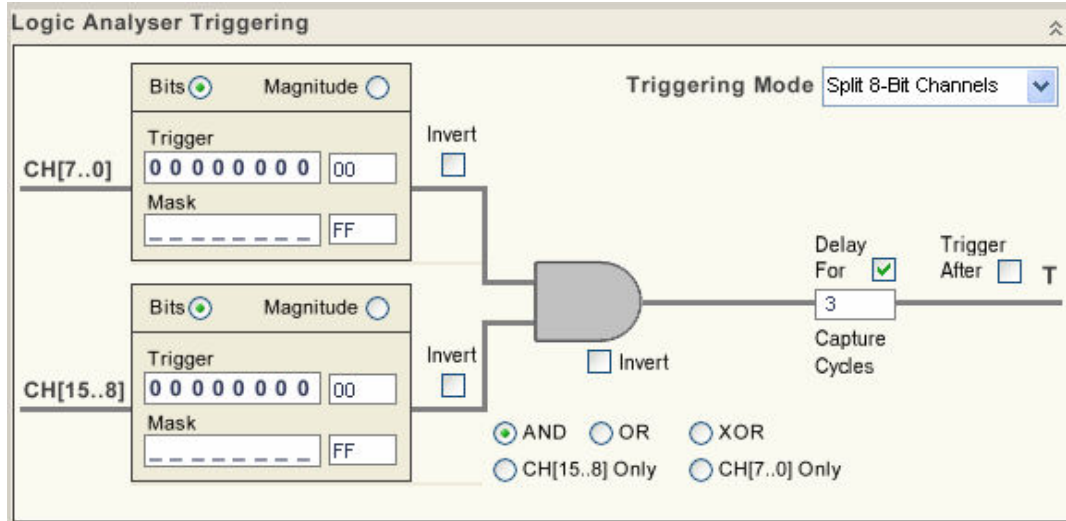

Figure 60. Logic analyser triggering options.
13. Select **Show Panel** on the logic analyser. Set the panel up as depicted in Figure 60